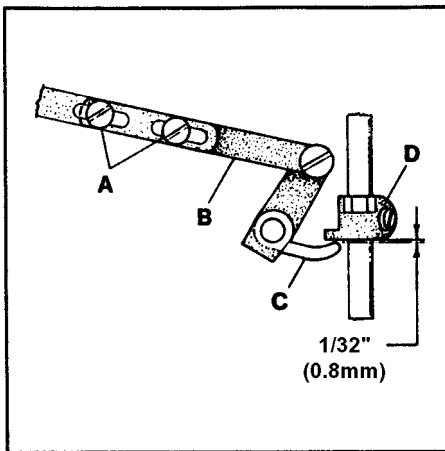

FIG. 22
Replace the presser spring and the presser bar regulating screw. Loosen screws (A, Fig. 22) in lifter lever link assembly (B) and position lever (C) so there is 1/32" (0.8mm) clearance between it and presser bar guide (D) when the feed dogs are below the throat plate.
Make sure the $1/32"$ (0.8mm) clearance between the presser bar lifter lever and presser bar guide has been maintained. Refer to Fig. 22 if readjustment is necessary.